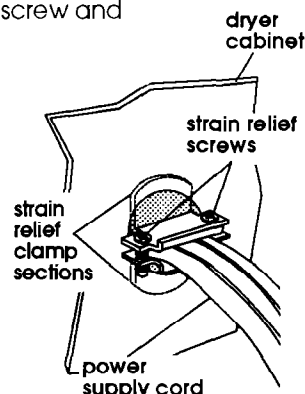

Figure 6
3. Assemble 3/4" U.L.-listed strain relief (U.L. marking on strain relief) into the hole below terminal block opening. Tighten strain relief screws just enough to hold the two clamp sections together. Install power supply cord through the strain relief (Figure 6).